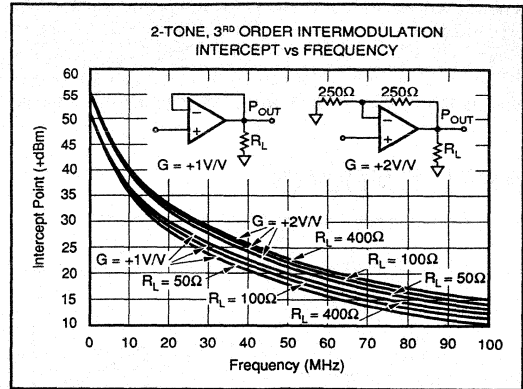

FIGURE 9. 2-Tone, 3rd Order Intermodulation Intercept vs Frequency.
Two-tone, third-order intermodulation distortion (IM) is an important parameter for many RF amplifier applications. Figure 9 shows the OPA620's two-tone, third-order IM intercept vs frequency. For these measurements, tones were spaced 1MHz apart. This curve is particularly useful for determining the magnitude of the third-order IM products as a function of frequency, load resistance, and gain. For example, assume that the application requires the OPA620 to operate in a gain of +2V/V and drive 2Vp-p into 50Ω at a frequency of 10MHz. Referring to Figure 9 we find that the intercept point is +40dBm. The magnitude of the third-order IM products can now be easily calculated from the expression: